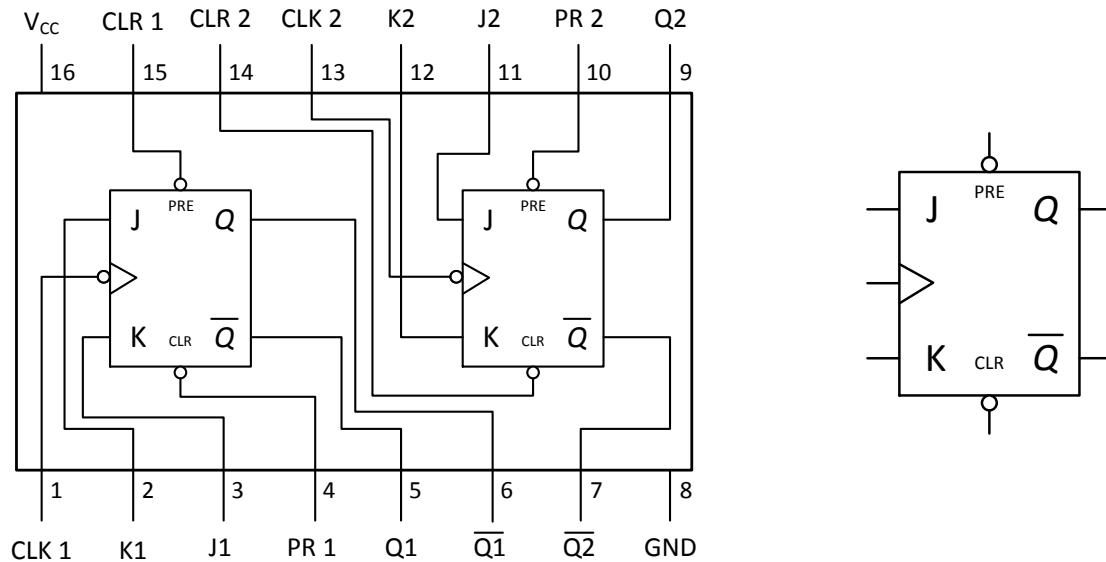

Figure 27: Internal Connections of the 74112 (Dual JK Flip-Flop)
- Using the pin configuration diagram in Figure 27, mount the 74LS112 IC on a breadboard. Use a toggle switch for the inputs (S, C) and LEDs for the outputs. Apply V_{CC} and Ground to the proper pins on the IC. Place the S & C inputs to logic '0' initially.